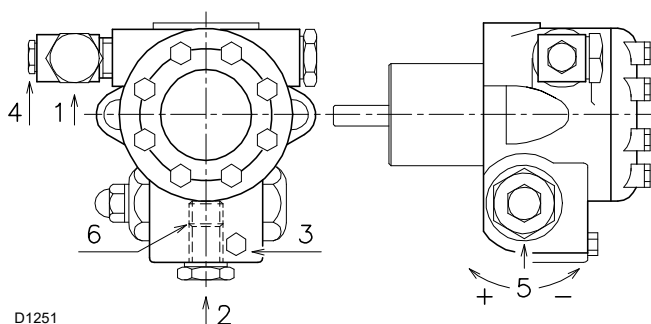

Fig. 31
In order for self-priming to take place, the screw 3)(Fig. 31) of the pump must be loosened in order to bleed off the air contained in the suction line.
- Select the fuel by positioning the selector (Fig. 31) to "OIL".
- The pump can be considered to be primed when the light oil starts coming out of the screw 3)(Fig. 31).